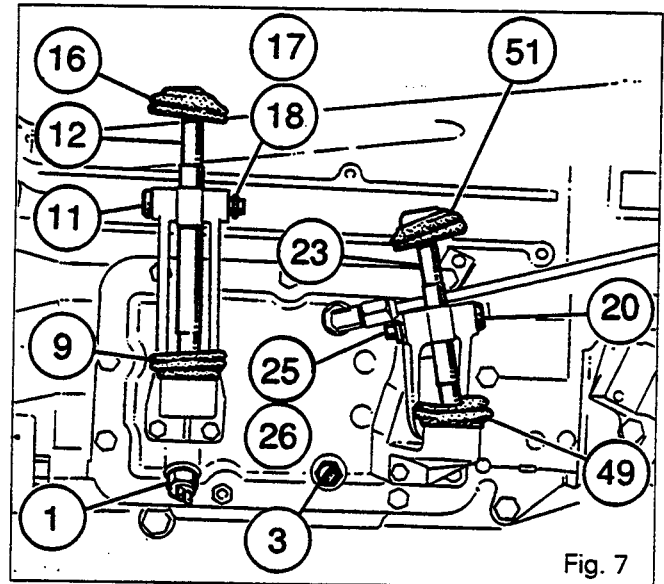
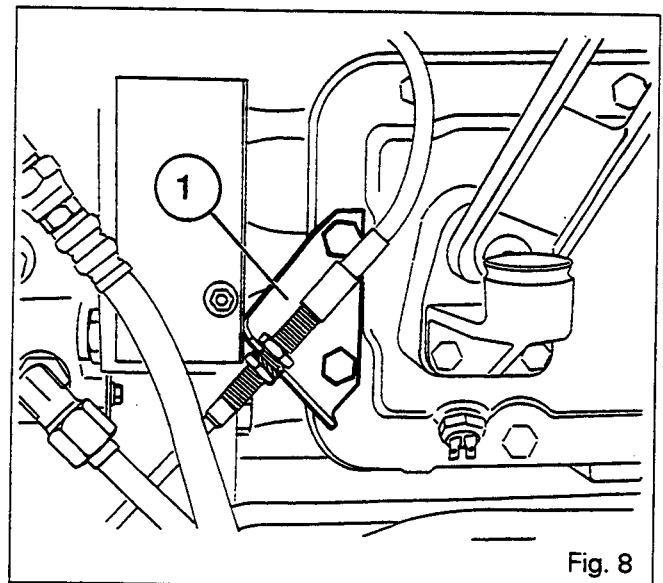
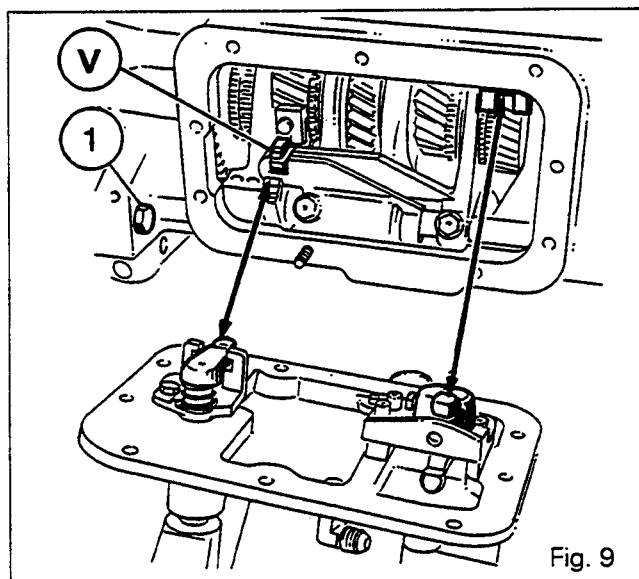

Fig. 7
Fig. 8
Fig. 9
9. Disconnect the wiring harnesses from the switch (1) and temperature gauge (3) (if fitted) (Fig. 7).
11. Remove the nut (57) and bolts (33) and mark the position of the earth wire lug (24). On creeper-type gearboxes, remove the control cable support bracket (1) (Fig. 8).
12. Remove the cover (56).
33. Clean the mating face on the cover (56).
34. Set the reversing selector, and the 1st, 2nd, 3rd and 4th gear forks to the neutral position. Move the lock V towards the opening of the selector cover. Check that bolt (1) is present (see Fig. 9).
38. Fit the earth wire lug (24), bolts (33) and nut (57). Tighten to a torque of 50 - 70 Nm.
**Note :** *For gearboxes equipped with creeper gears, fit the cable support (1) (Fig. 8).*
40. Reconnect the wiring harnesses to the Hare/Tortoise switch (1) and on the temperature probe (3).
41. Refit the reversing lever (23) and gear lever (12).
42. Reinstall pins (11) and (20). Reinstall the washers and pins. Position the dust covers (Fig. 7).